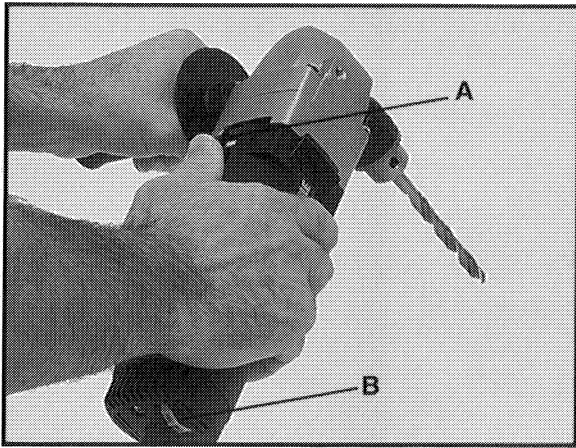

Fig. 2
It is strongly recommended that the auxiliary handle be used and the tool held as illustrated in Fig. 2 during all drilling operations.
2. Slide the switch button (A), Fig. 2, forward to turn tool "ON". When released, the switch will return to the "OFF" position.
3. To lock the switch in the "ON" position: With the switch "ON", press the front end of the switch button (A), Fig. 2, in toward the tool housing. To release the switch lock: Press the back end of the switch button in toward the tool housing.
4. The drill speed may be varied by adjusting the selector dial (B), Fig. 2. The selector dial is numbered 1 through 6 with the Number 1 being the slowest speed setting (500 RPM) and 6 being the fastest (2200 RPM). The speed may be adjusted with the drill on or off. Experience will aid in choosing the correct speed for the operation being performed.
WARNING: The front end of drill may be made live if the tool drills into live wiring in a wall. TO PREVENT ACCIDENTAL ELECTRICAL SHOCK, DRILL MUST BE HELD AS SHOWN IN FIG. 2.